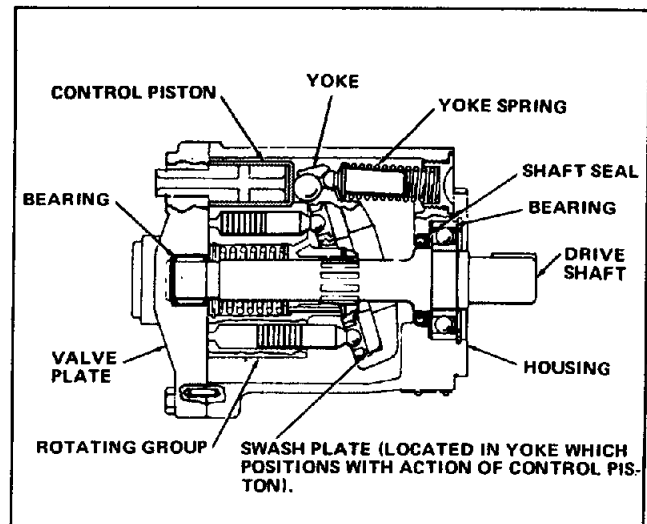

Figure 22. Cross Section of Variable Displacement Pump
10. Fill the manifold and main pumps by pouring hydraulic fluid through a 200 mesh screen into the Rosean filter (Figure 22). Continue filling the filter until straight fluid (no air bubbles) come out at the tube connectors that were left loose at the pumps. Tighten tube connectors. Check fluid level in filter canister and replace filter cover.
As the pump (see Figure 22) operates, the piston is drawn out of the cylinder and fluid is drawn into the inlet port. As the cylinder rotates, the piston forces fluid out as it passes over the outlet port. The output volume is determined by the angle of the swash plate relative to the drive shaft axis. The pump stroke mechanism governs the angle of the yoke and swash plate and consequently controls the stroke-length of each piston as it rotates within the pump cylinder block.